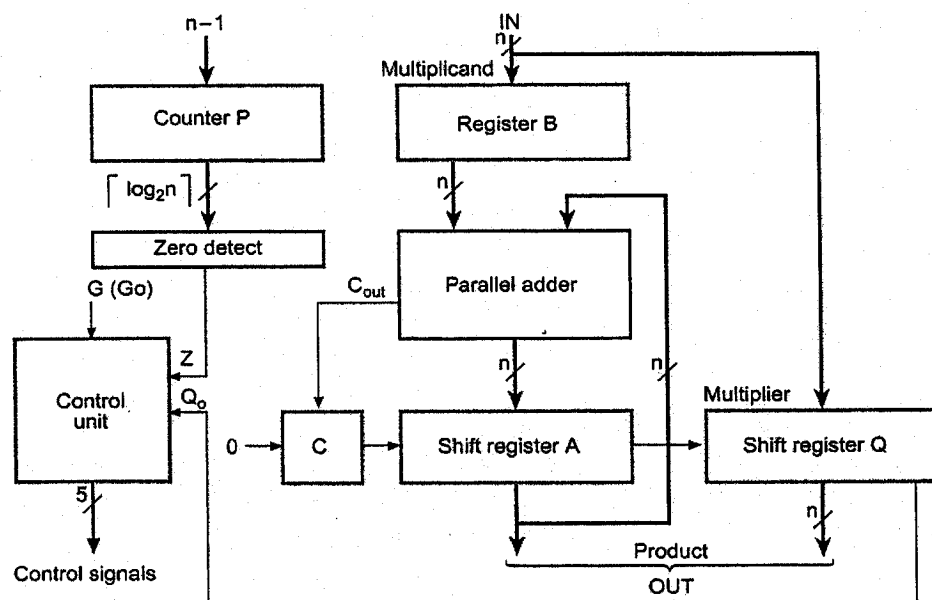

Figure 2
2. (a) A block diagram for a n-bit binary multiplier is shown in figure 2 below. Explain in detail the operation of the system. Your explanation should include a description of the function of each register in the diagram. [10 marks]
- (b) Design a microprogrammed control unit for the binary multiplier shown in figure 2. Your design should include an ASM chart for the microprogrammed control unit and details on the microinstruction Control word format along with a complete block diagram for the control unit. [13 marks]